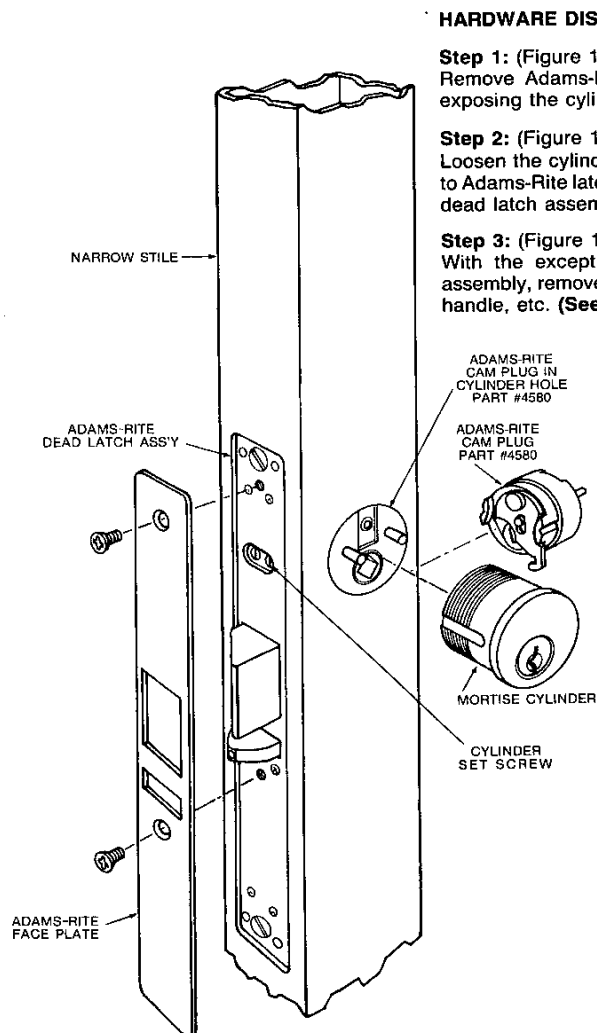

FIGURE 1
Step 1: (Figure 1)
Remove Adams-Rite face plate from edge of door exposing the cylinder set screws. (See Fig. 1)
Step 2: (Figure 1)
Loosen the cylinder set screw (securing key cylinder to Adams-Rite latch) and remove the cylinder from the dead latch assembly. (See Fig. 1)
Step 3: (Figure 1)
With the exception of the Adams-Rite dead latch assembly, remove all other hardware from door, knob, handle, etc. (See Fig. 1)
Step 13: (Figure 1)
Re-install Adams-Rite dead latch assembly. Re-install Adams-Rite cam plug or plugs. (Do not tighten cylinder set screw.) (See Fig. 1)